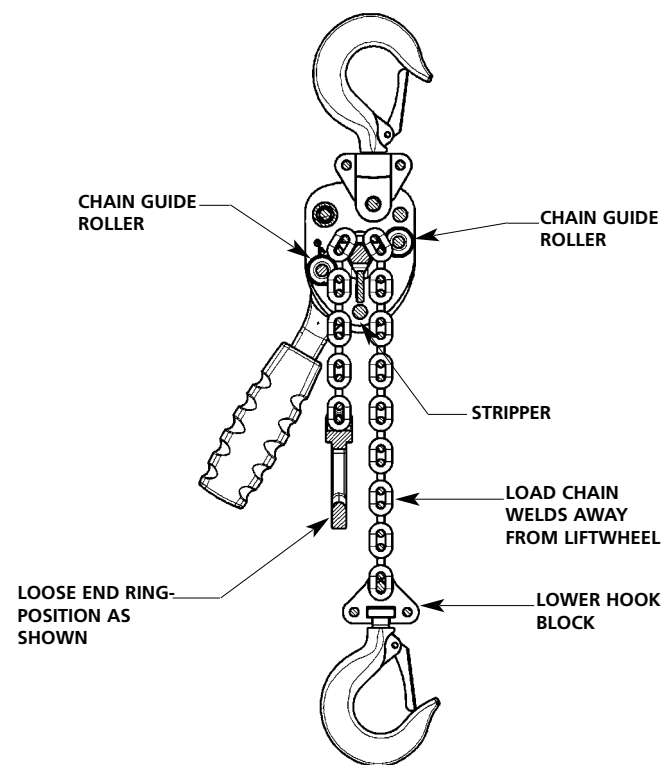

FIGURE 3
3. When installing the chain, it must be fed through the chain guide rollers with the welds away from the liftwheel, the lower hook must be directly below the upper hook and the loose end ring must be positioned and oriented at the end of the chain as shown in Figure 3